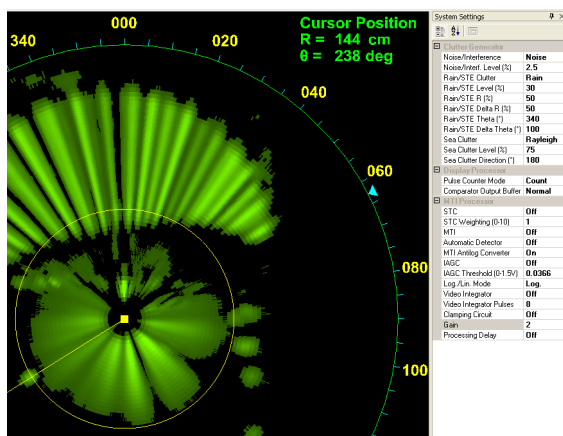

Figure 10. Computer-based control of clutter and interference generation.
- Set the parameters that control the generation of clutter and interference (see Figure 10).